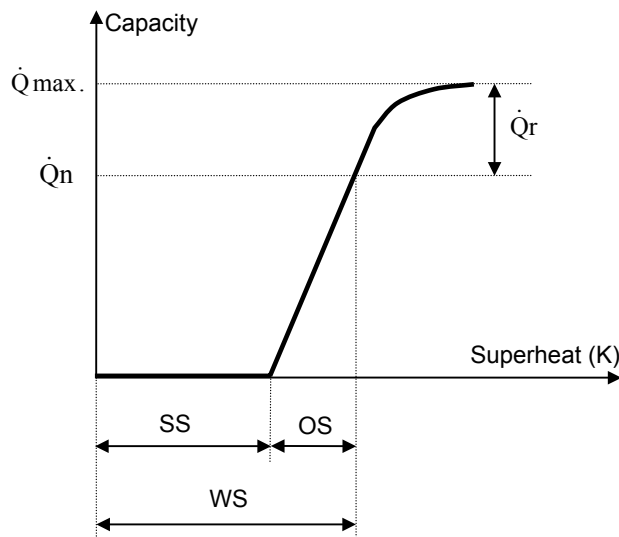

Fig. 2: Capacity – Superheat diagram
- Nominal capacity ( $\dot{Q}^n$ ) is defined as the capacity given by the valve manufacturer at nominal rating conditions (see Fig. 2).